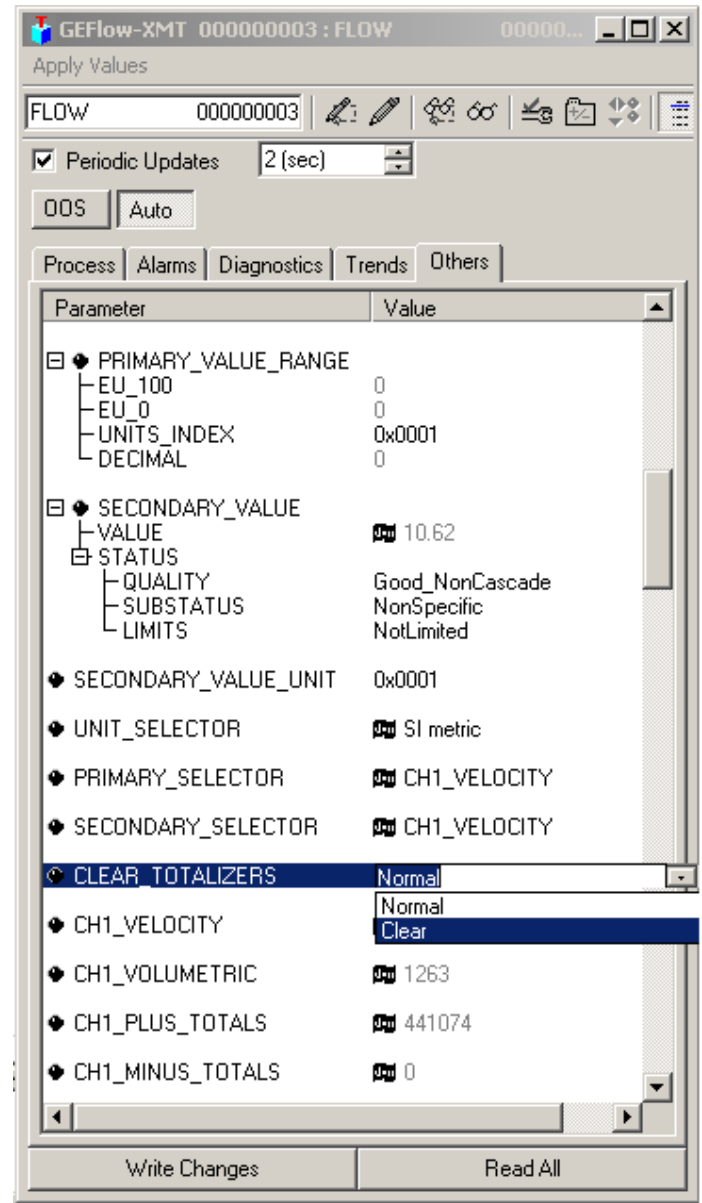

Figure 62: Clear totalizers drop down list
3. Select *clear* from the drop down list box (see *Figure 62* below).